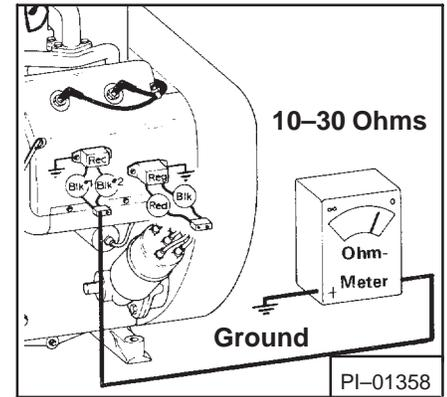

Fig. 1-32 Rectifier Check #1
**NOTE:** If your ohmmeter does not give you the readings shown in Figures 1-32 thru 1-41, reverse the leads going into your meter. If the readings still differ from the readings listed, replace the part tested.